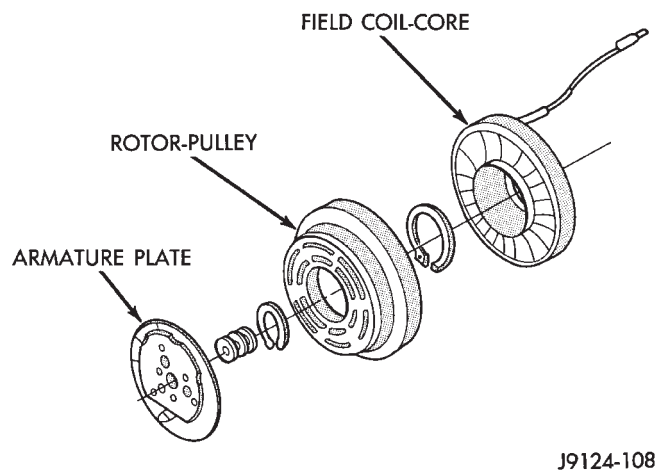

Fig. 2 Armature Plate/Rotor-Pulley/Field Coil-Core INSPECTION
- (3) Tap the armature plate with a plastic and remove plate and shim(s) (Fig. 2).
(4) Remove rotor-pulley retaining snap ring with Snap Ring Pliers C-4574. Slide rotor-pulley assembly from compressor. Use a plastic hammer, if necessary.
(5) Loosen the lead wire retaining clamps and remove lead wire from the compressor front end plate. Disconnect the lead wire from the thermal limiter switch.
(6) Remove the snap ring which secures the field coil-core assembly to the front boss (Fig. 2). Note the alignment of field coil-core assembly when removing.